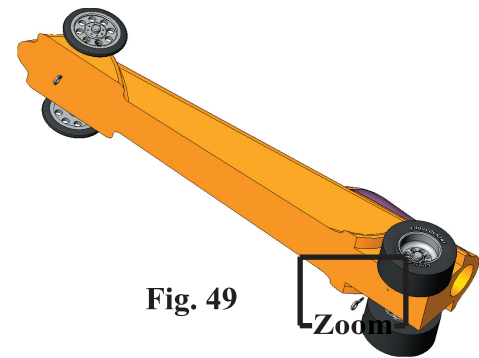

Fig. 49
Step 12. Zoom in around **rear eye screw and hole**, Fig. 49.